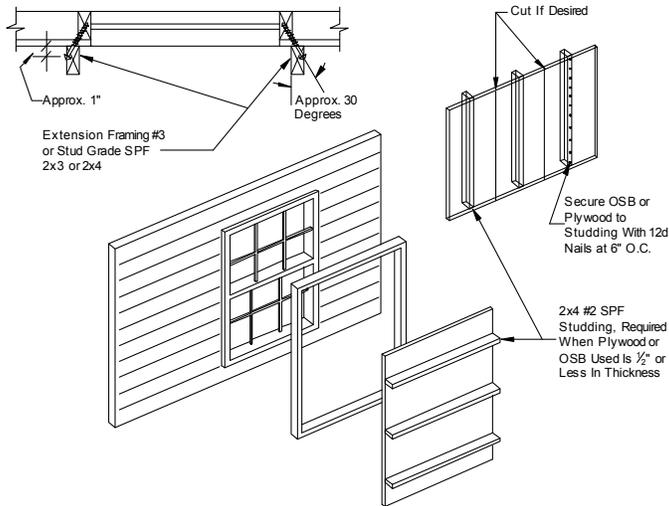

Figure 105. Wind protection shutter construction
If desired, prepare temporary protective window covers for use during severe wind storms and hurricanes according to **Figure 105**, **Table 33**, and the procedure below.
2. Assemble shutter panels as shown in **Figure 105**.